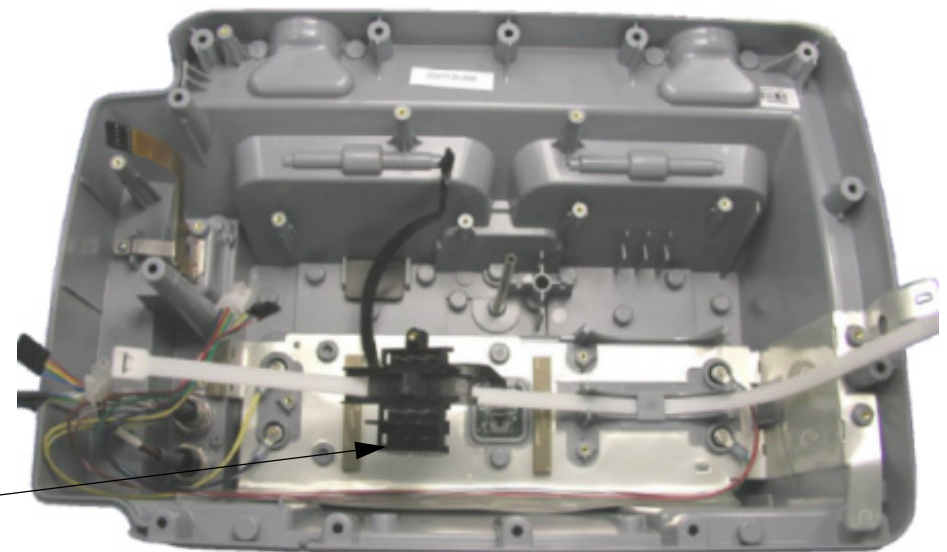
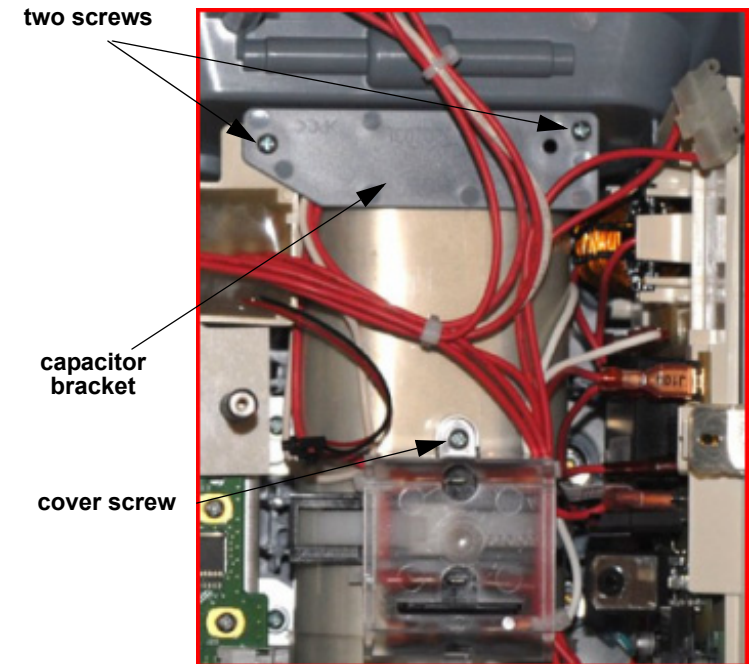

Figure 10.78—Interconnect bracket location
Figure 10.79—Interconnect bracket screw locations
Refer to Figure 10.78 on p. 404.
Refer to Figure 10.78 on p. 404 and Figure 10.79 on p. 405.
4. Secure the clear plastic high-voltage shield (3010593-00) to the interconnect bracket with one new screw (202253-761); torque to 6.8 in-lb (see Figure 10.79 on p. 405).
5. Secure the capacitor bracket (3207031-001) with two new screws (202253-761); torque to 6.8 in-lb (see Figure 10.79 on p. 405).